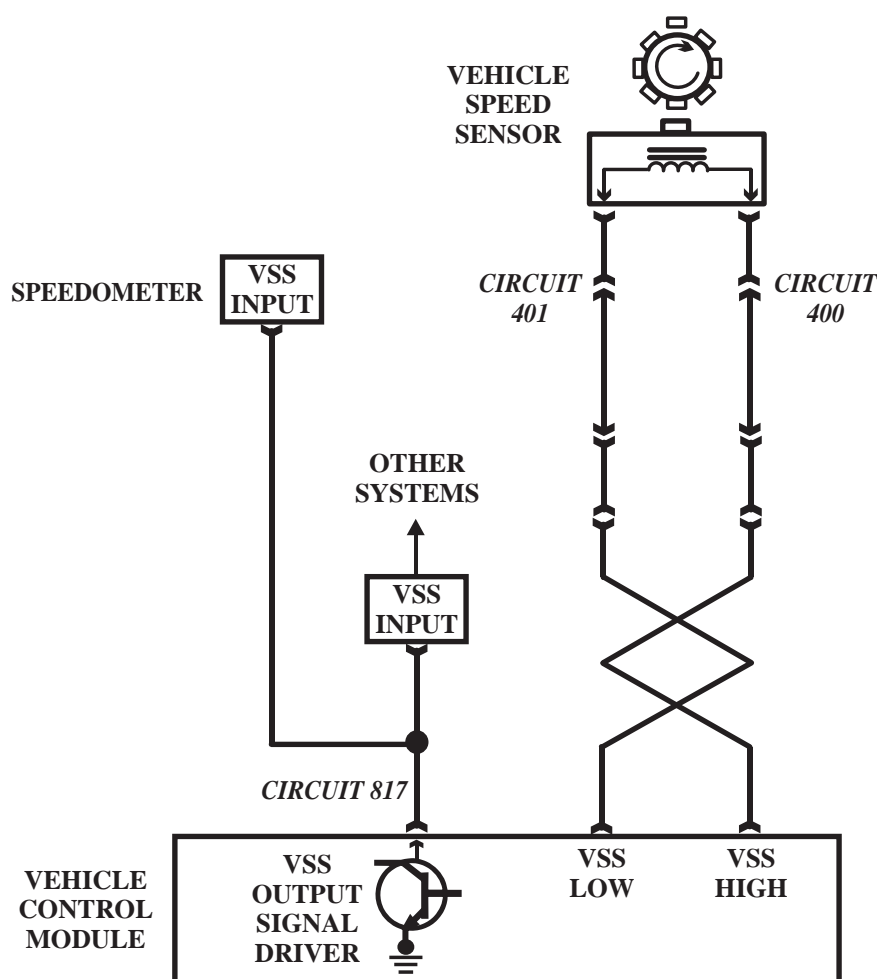

Figure 56
- A faulty Vehicle Speed Sensor, (Refer to Figure 56).
- A faulty VSS connector or circuits 400 or 401, (Refer to Figure 56).
- A faulty Vehicle Control Module, (Refer to Figure 56).
- When the VSS circuit produces no signal, check the VSS signal to the VCM on circuits 400 and 401 using Hertz or an oscilloscope. If VSS signal checks good, check the signal to the speedometer, it should toggle between approximately 12 volts and ground. If circuit 817 has 12 volts at all times, then the driver inside the VCM is not grounding the circuit. If circuit 817 is grounded at all times, the driver or circuit is grounded. If circuit 817 has zero, voltage from the speedometer head, it may be open or grounded externally to the PCM/VCM , Refer to Figure 56 below.